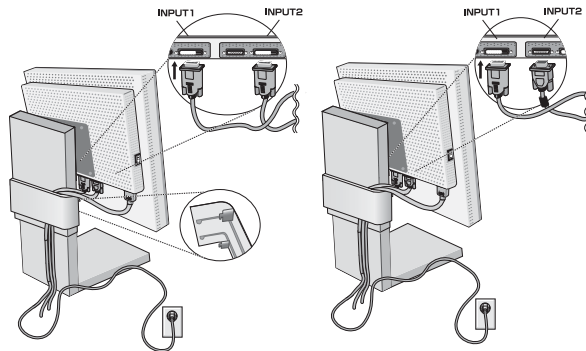

Figure C.1
3. Connect the DVI signal cable to the connector on the back of the monitor. Place the video signal cable (**Figure C.1**). Connect the VGA or DVI to Input 2.
Collect cables and keep them in the stand by attaching the cable cover. The cable cover can be attached on the front or back side of tilt stand (**Figure C.1, C.2**).
4. Connect one end of the power cord to the AC inlet on the back of the monitor and the other end to the power outlet (**Figure C.1**).